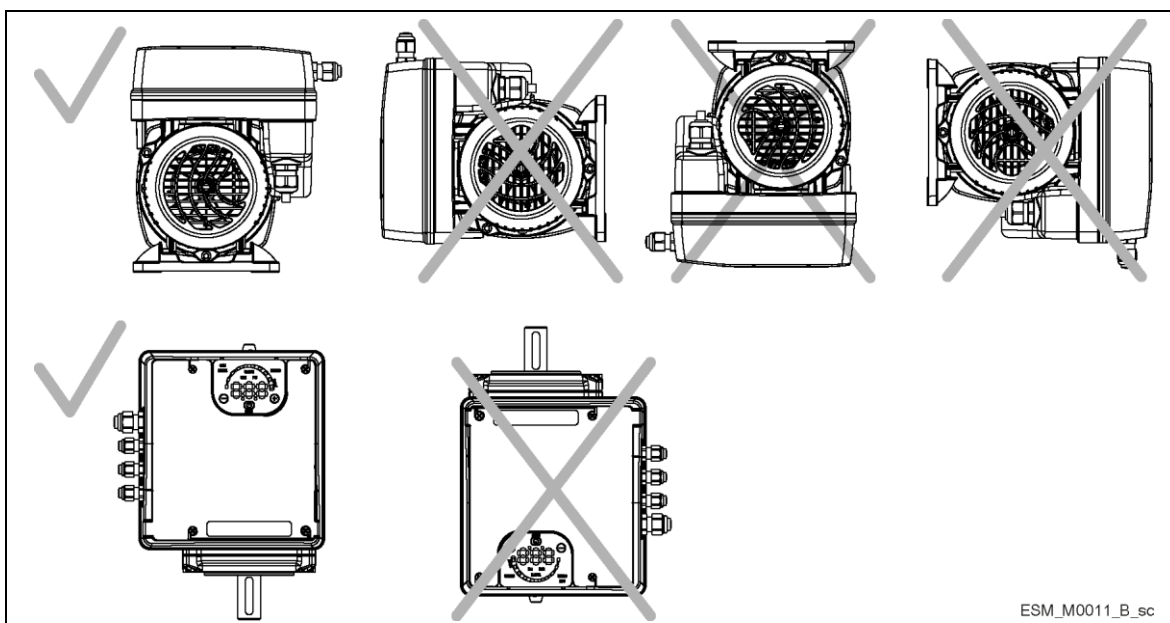

Figure 13: Unit installation
- The unit must be installed according to Figure 13.